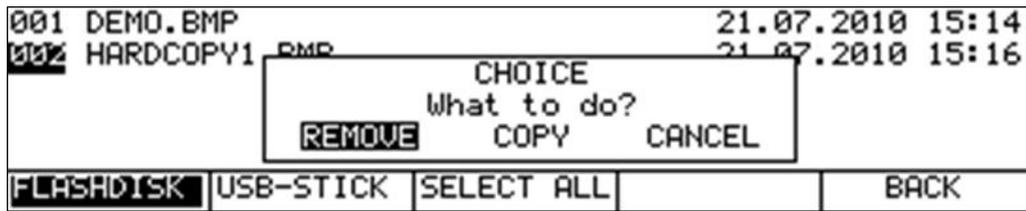

Figure 10-4 Deletion of a .BMP file in the directory FLASHDISK
- Figure 10-4 Deletion of a .BMP file in the directory FLASHDISK 58